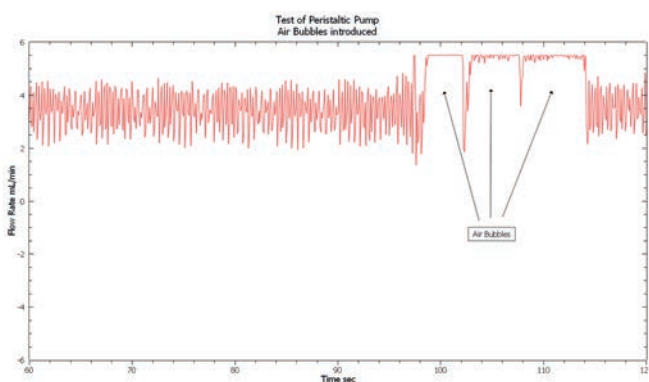

Figure 3. Test of peristaltic pump air bubbles introduced.
To demonstrate the effect of undissolved gas we introduced a small gas bubble into the inlet line of one of the peristaltic pump channels while monitoring the flow rate (*Figure 3*).
*Figure 3* demonstrates that peristaltic pumps (even when using degassers) are prone to undissolved gas bubbles producing erroneous results from any connected liquid system without any indication of a problem with the pumping system.